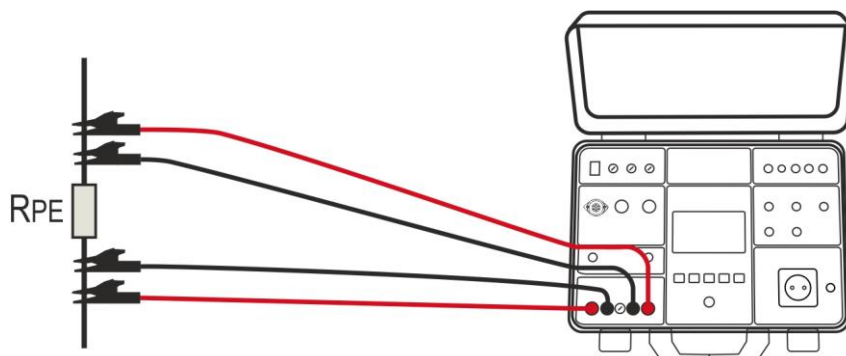

Fig. 30 : Connection of test leads in RPE-4WIRE function
5. Connect the test leads according to the below Fig. 30